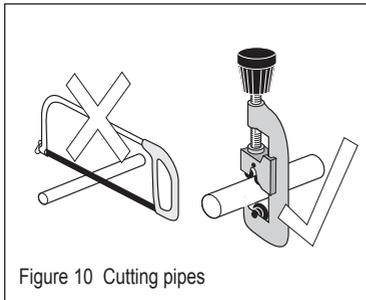

Figure 10 Cutting pipes
- 6.12 Cut all necessary pipework to length with a pipecutter and not a hacksaw. This will minimise the swarf and prevent damage to the sealing o-ring in the pushfit fitting - see Figure 10.